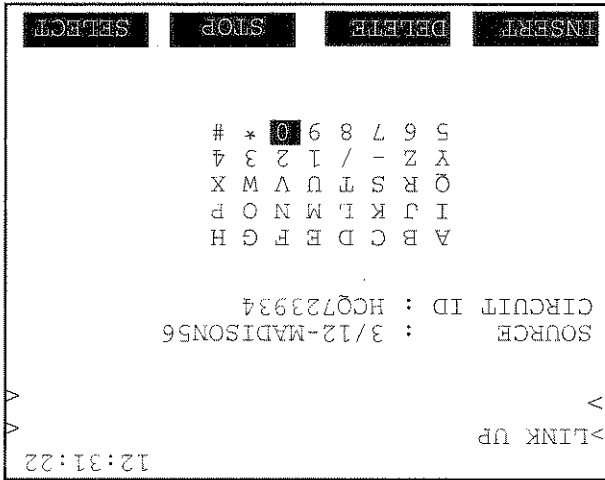

Figure 7-2 Saving a Result
- 5) The Edit Results screen appears as shown in Figure 7-2.
- a. Press EDIT (F1). Now the character grid appears as shown in Figure 7-2.